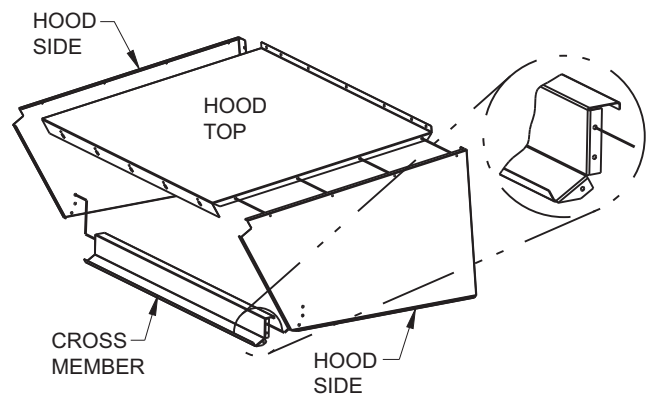

Fig. 17 — Economizer Hood Assembly
3. Assemble hood sides, top, and cross member with gasketed screws provided. See Fig. 17.